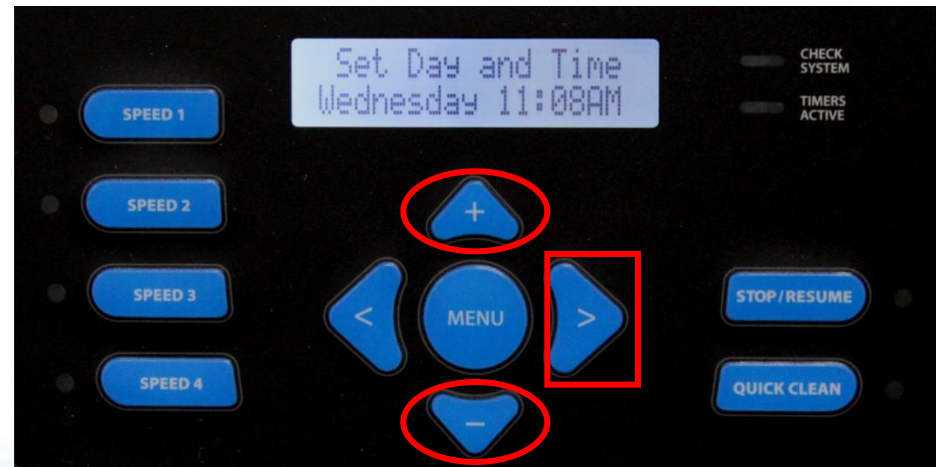

Figure 30
7. You now Use the  button to highlight the day, hour, minute and AM/PM. Use the  &  buttons to change (fig 30). After setting the AM/PM press the  button to continue.